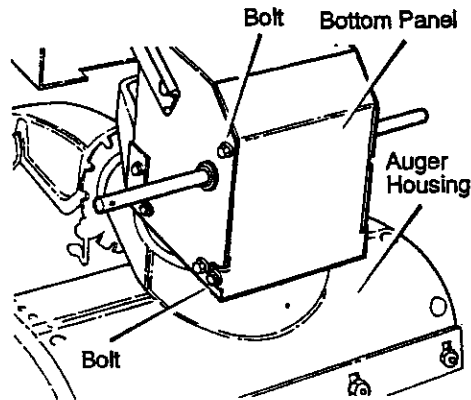

Figure 34
3. Loosen the bolts on each side of the bottom panel (see Figure 34).